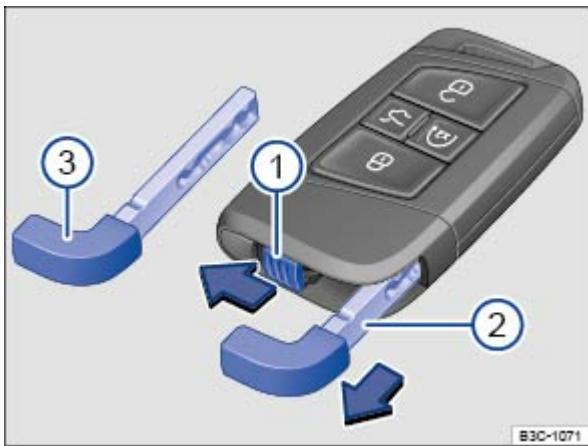

Fig. 53 Releasing the emergency key and removing it from the remote control vehicle key.
Key to ⇒ Fig. 53 :
- ① Emergency key release.
- ② Removing the emergency key.
- ③ Emergency key bit.
If your vehicle is equipped with Keyless Access, there is an emergency key ⇒ Fig. 53③ inside the remote control vehicle key fob.
To remove the emergency key: Move the sliding lock ⇒ Fig. 53① in the direction of the arrow. At the same time, push the emergency key out of the slot in the remote control vehicle key in the direction of the arrow ②.